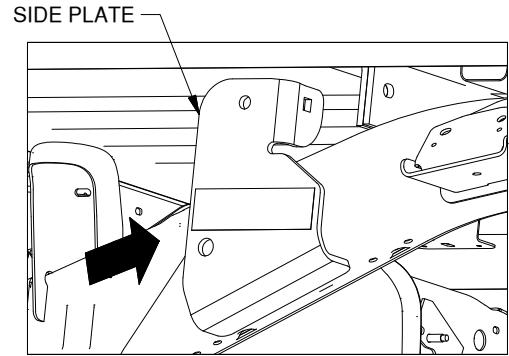

Figure F1: Looking in driver side wheel well.
3. **Position side plate.** Place the driver side plate against the frame with the bent ear with the square hole facing inward on the cab side of the cross members, see Figure F1. The bottom flange of the side plate should face in and match the slope of the underside of the frame when installed properly.